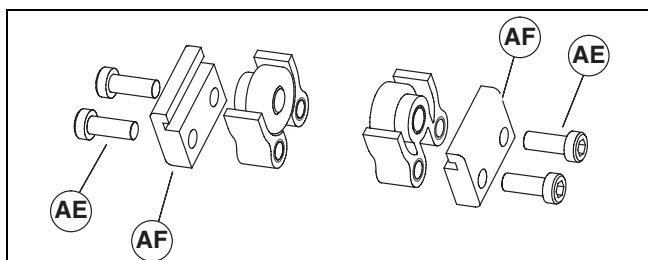
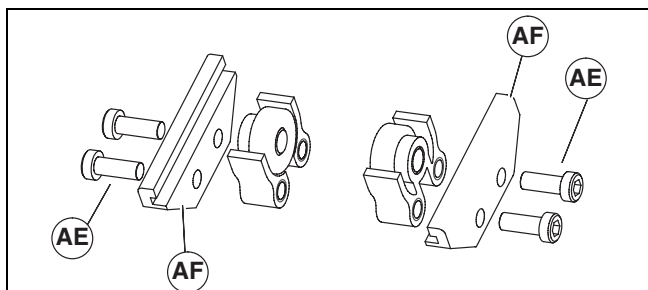

Figure 12
Figure 13
- Locate return rollers. Exploded views shown in Figure 12 & Figure 13.
- Remove screws (Figure 12, item AE) & (Figure 13, item AE) and clips (AF) from roller assembly.